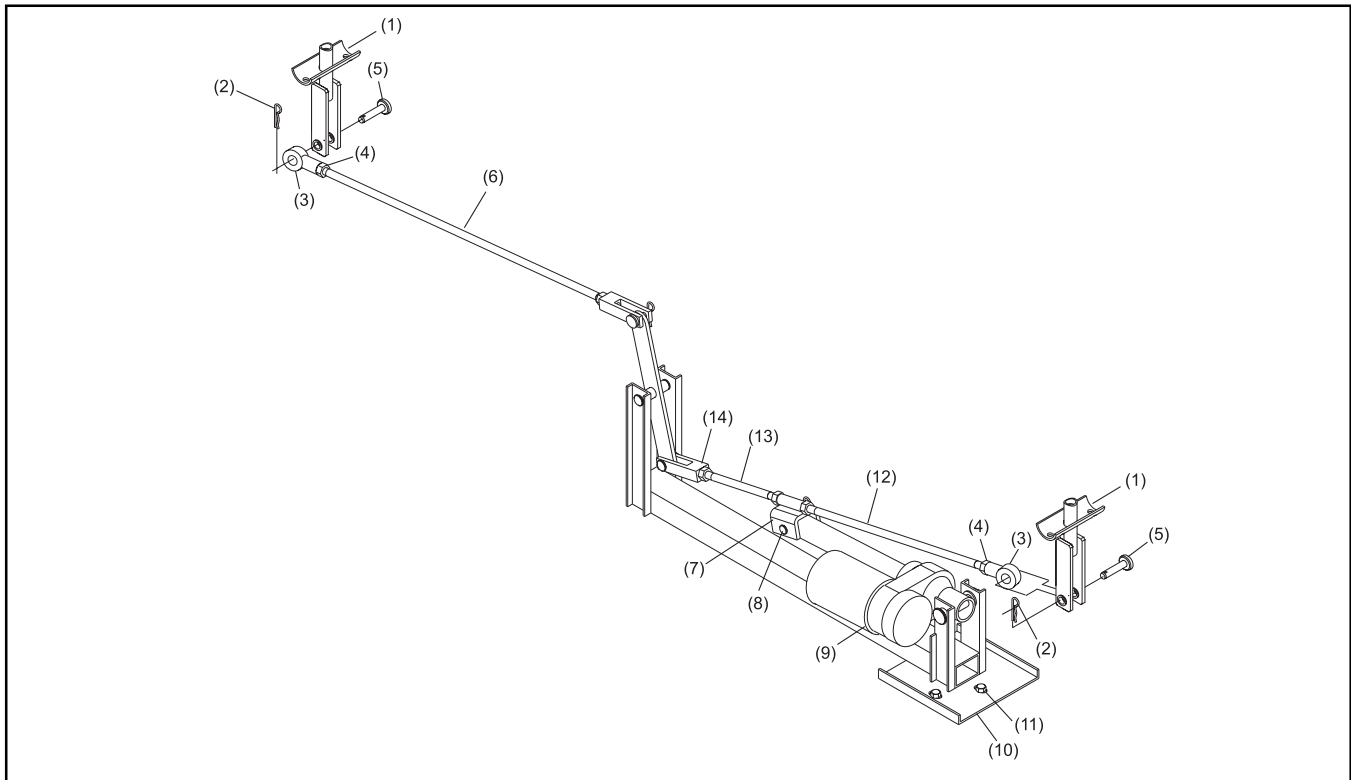

Figure 1. Component Identification
The following procedures list the steps required to inspect for and then correct an unacceptable interference between the actuator motor drive screw and the yoke pin on the mechanical linkage. These steps should be accomplished after the components have been initially installed (i.e., mechanical linkages are connected, bumpers close beneath lane surface, etc.). Refer to *Figure 1*.
- d. Disconnect clevis pins from the gutter clevis assemblies for both gutters. Refer to *Figure 1*.